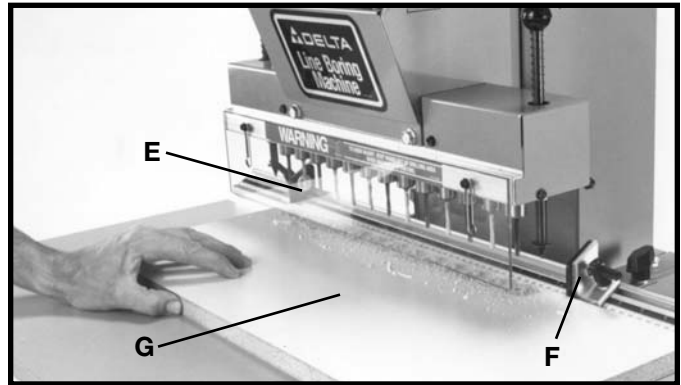

Fig. 60
1. The left stop (E) Fig. 60, should be set 1" to the left of the last drill bit on the left side of the machine. The right stop (F) Fig. 60 should be set 1" to the right of the last drill bit on the right of the machine.
2. Figure 60 illustrates that we have just bored 13 holes, one inch in from the edge of the workpiece (G). The work-piece (G) is positioned against the fence with the left edge of the workpiece against the left stop (E). **NOTE:** The right stop (F) has been pushed back so the workpiece can contact the fence surface.